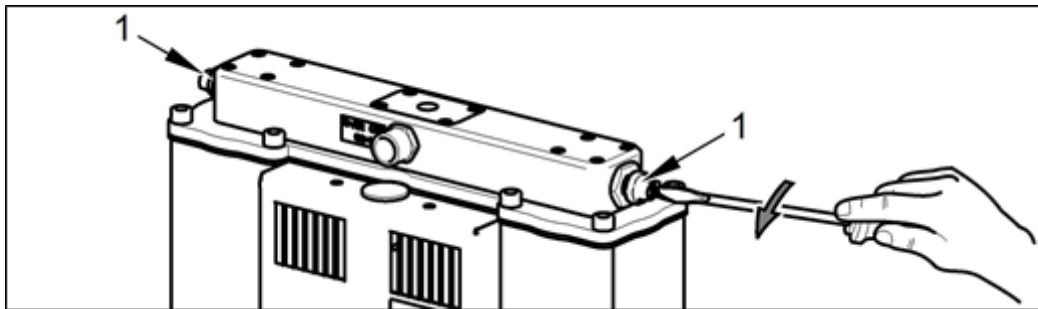

Fig. 30: Venting pressure from the dryer chambers
- Open the vent plugs on the outlet module on the equipment (Fig. 30).